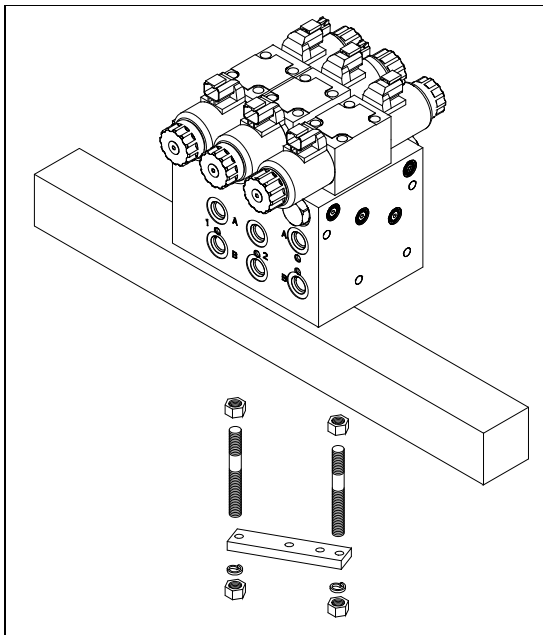

Figure 5: Valve Block Mounting
1. A good mounting location for the valve block on the John Deere is illustrated in Figure 5.